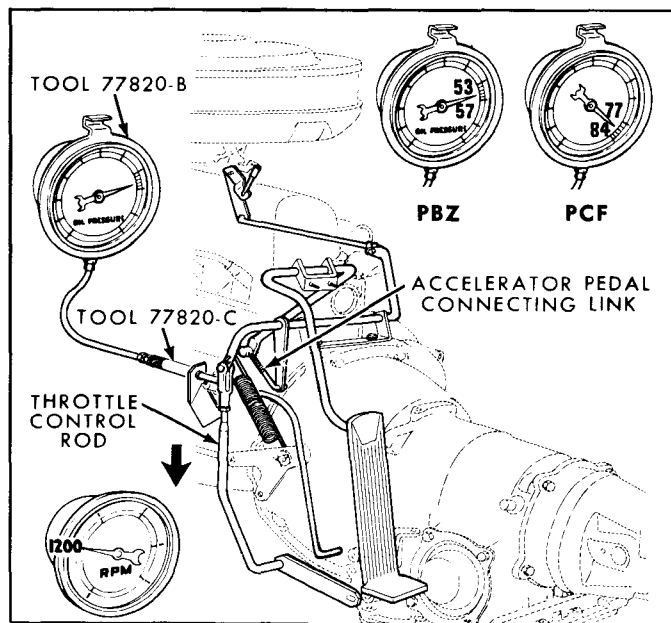

Fig. 7A-4—Throttle Linkage—(61CM-4401)
6. With the engine stopped, disconnect the throttle control rod at its clevis end. Refer to figure 7A-4. Loosen the clevis locknut.
3. Install the pressure gauge, Tool 77820-B, to the pressure tube with the adapter, Tool 77820-C. Install the adapter finger-tight. See figure 7A-4.